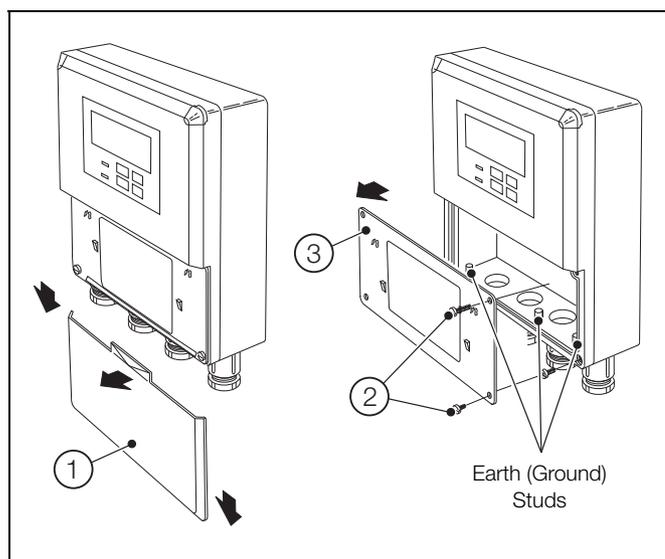

Fig. 4.1 Access to Terminals – Wall- / Pipe-mount Analyzer
Referring to Fig. 4.1:
- Stud terminal(s) is (are) fitted to the analyzer case for bus-bar earth (ground) connection – see Figs. 4.1, 4.4 and 4.5.
- Refer to Fig. 4.1, page 12 for access to terminals.